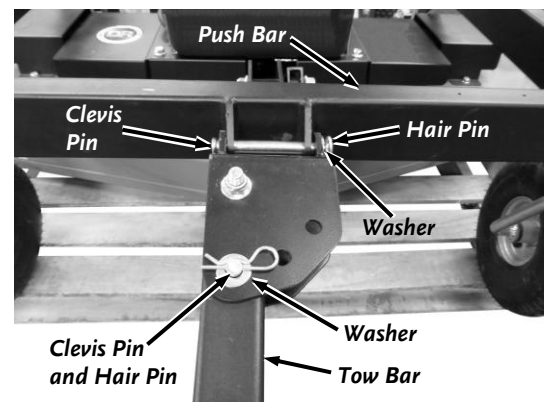

Figure 18
1. Secure the Offset Bracket to the Push Bar in the configuration shown (for right side offset) using the 4.5" long Clevis Pin, Washer, and Hair Pin (**Figure 18**).